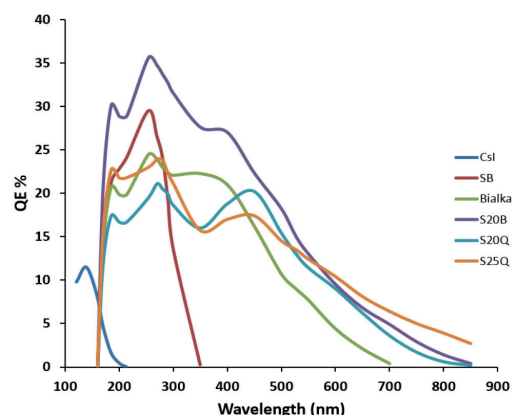

Figure 3: Spectral response of available photocathodes. Note that the underlay on the cathode can affect the QE.
The photocathode material also determines the spectral response and sensitivity of the image intensifier. Common types of photocathodes and their spectral responses are given in Figure 3.
2. Quantum Efficiency measured at stated peak wavelength with no gating under-layer, see Figure 3 for wavelength dependence and Table 3 for gating options.
where $G\gamma(\lambda_{max})$ and $QE(\lambda_{max})$ are given in Table 4, $QE(\lambda)$ is taken from Figure 3 and $\eta_{phosphor}$ is the relative efficiency from Table 1.